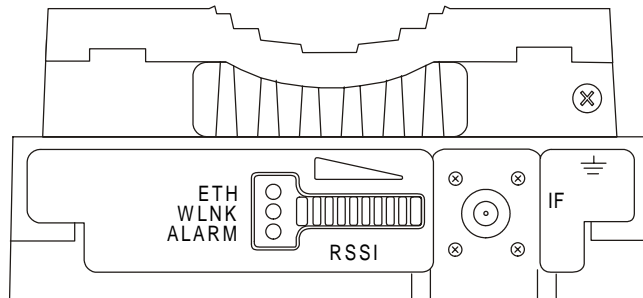

Figure 4-1. SU-RA/RE Outdoor Unit Bottom Panel
3. The RSSI bar display is located on the bottom panel of the Outdoor unit (refer to Figure 4-1). The 8 green RSSI LEDs are used for reading the Received Signal Strength Indication. The higher the number of green LEDs that are ON, the higher the level of the received signal. Rotate the antenna left and/or right until you reach the point of maximum RSSI reading. Make sure that at all times, the front of the antenna faces the general direction of the base station.
To verify correct operation, view the LED indicators located on the bottom panel of the Outdoor unit as shown in Figure 4-1 on page 17.